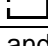

Figure 6-Connecting AC Adapter to Meter
3. Insert proper battery into compartment. Note the positive (+) and negative (-) terminals as indicated inside the battery compartment (See Figure 6). Be sure to insert the battery with matching polarity.